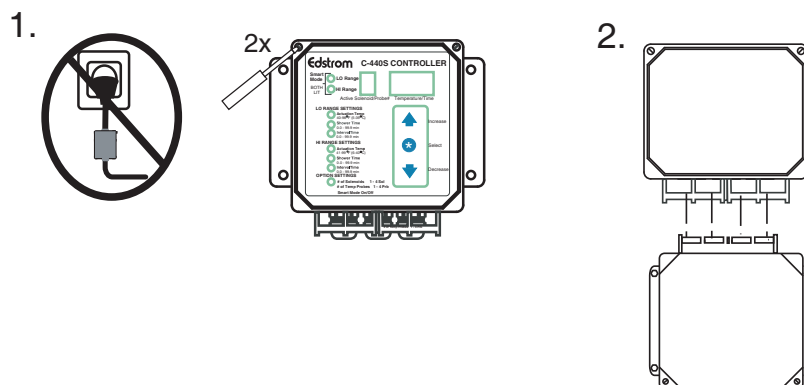

Figure 3-3. Removing the controller door.
1. Remove the controller door as shown in Figure 3-3.